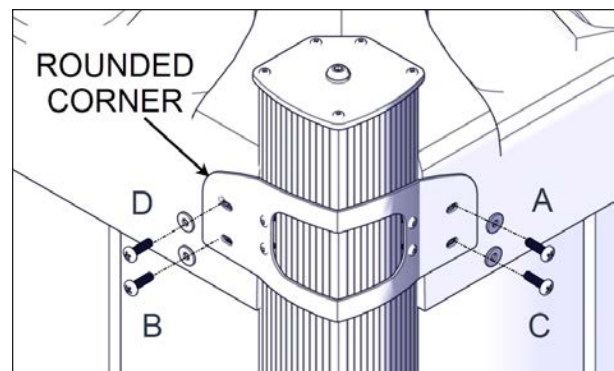

FIGURE 65: INSTALLATION PATTERN FOR CORNER BRACKET SCREWS ATTACHED TO THE COVER
4. Install the first outer corner bracket as shown in Figure 65. Fasten the bracket to the cover
with four painted Phillips M6 x 20mm bolts and 1/4" painted washers. Install the first screw on position A and for the remaining screws, keep following the pattern shown in Figure 65.